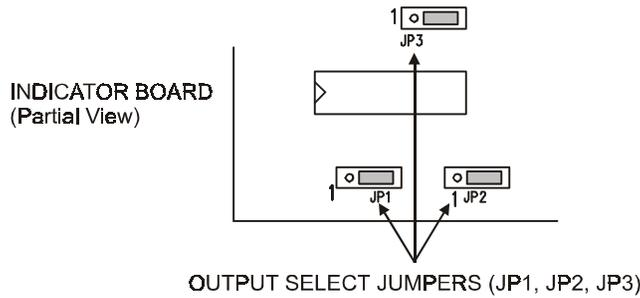

Figure 19 - DIFFERENTIAL OUTPUT JUMPERS
5.4 DIFFERENTIAL TENSION OUTPUT (DO) See Fig. 19 for setting jumpers.
Verify that the Output Select Jumpers (on the Indicator board) are set as shown in Figure 19.